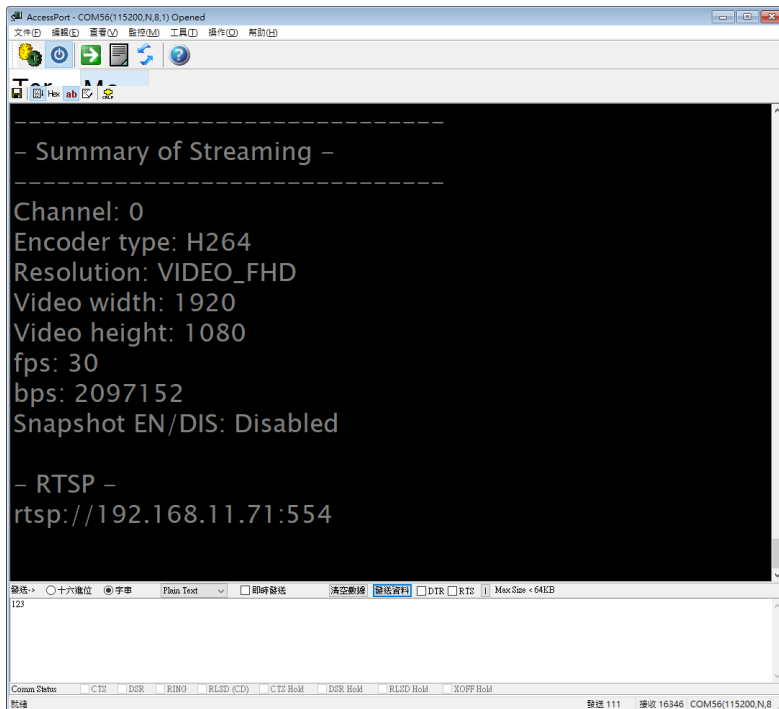

Figure 27 、Get the RTSP IP address
Compile and upload your code to HUB 8735 Ultra (Refer (4) HUB 8735 Ultra Firmware Upgrade). Reboot the hardware board, and you can see a RTSP IP address from debug message on Serial Monitor window (Figure 27).